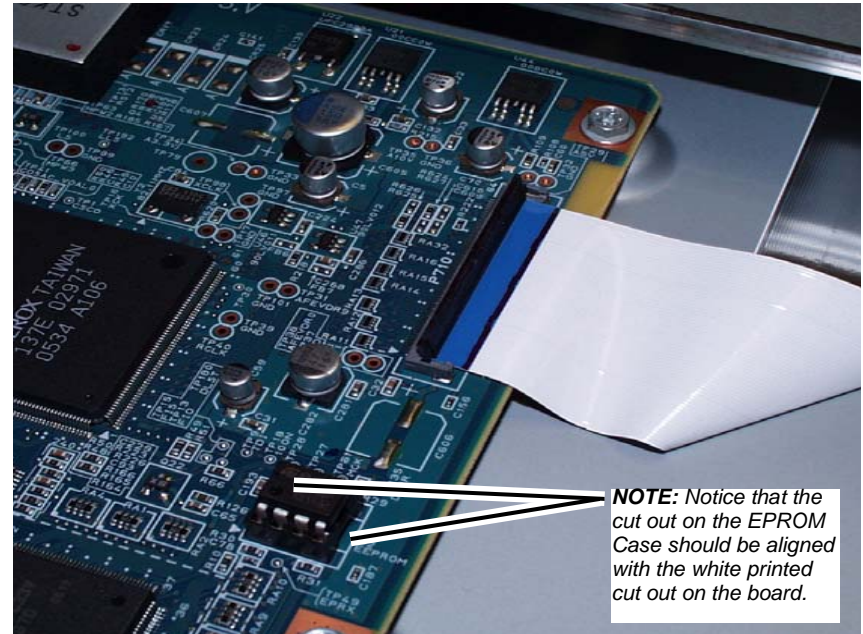

Figure 9 Removal and replacing the IIT EPROM
12. When replacing the IIT/IPS PWB, remove the EPROM from the old IIT/IPS PWB to install it on the new IIT/IPS PWB. (Figure 9)